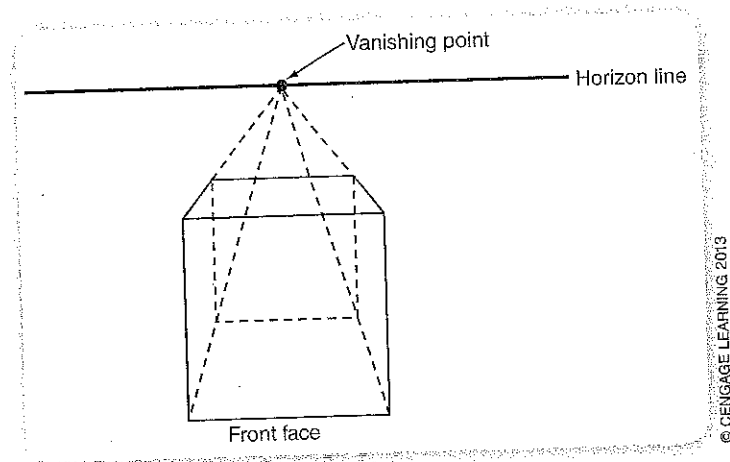

Figure 5-45: Step Three
Step 3. The position of the horizon line and vanishing point tell us that you are directly in front of the cube and slightly above it. What you see of the cube is the front and top faces. Outline those in solid black lines (see Figure 5-45). This way you are showing what is seen and what is not seen but is understood.